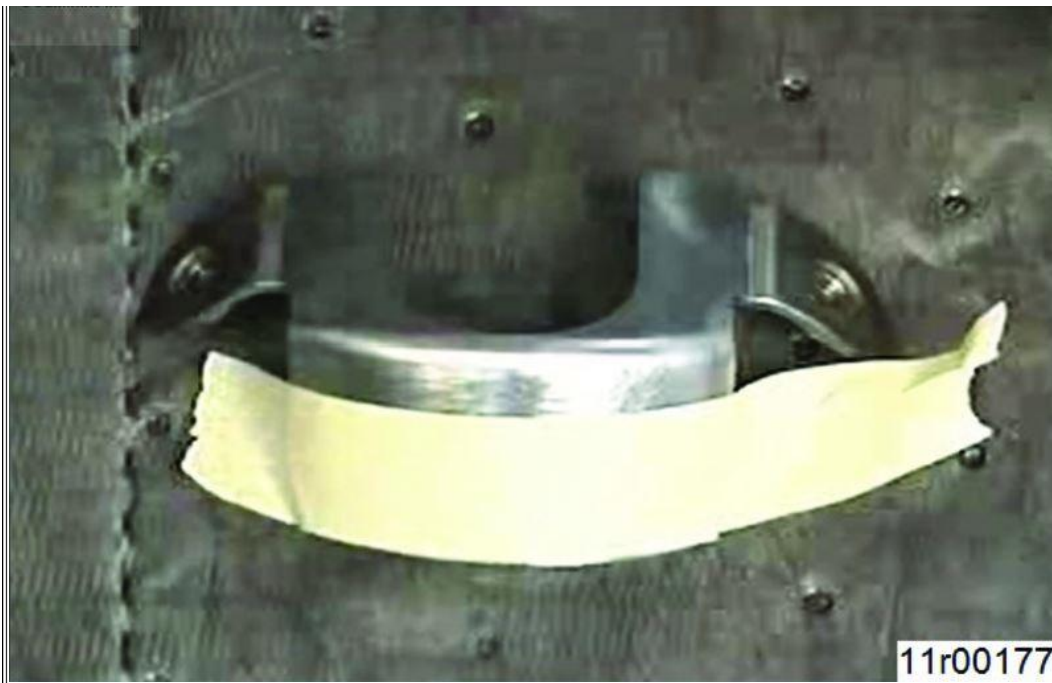

Figure 7: NOx Sensor Internal Water Shield
15. Attach masking tape to aftertreatment outlet NOx sensor internal water shield making sure to leave one inch of exposed metal as shown in Figure 7.